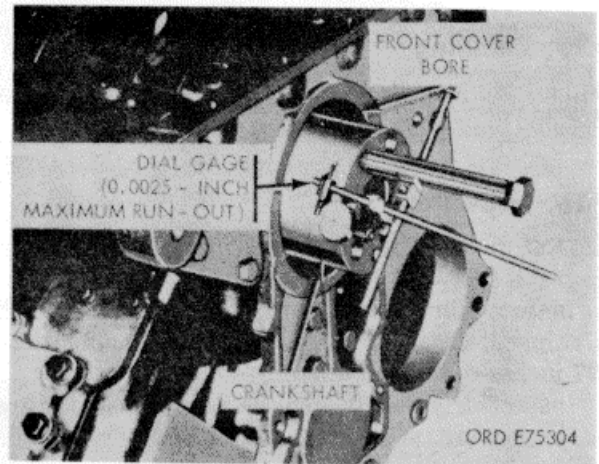

Figure 3-15. Front cover bore alinement check
b. Place dial indicator gage on crankshaft with dial pointer inside front cover bore. Rotate crankshaft and check total indicator reading. Run-out must not exceed 0.0025 inch (fig. 3-15).